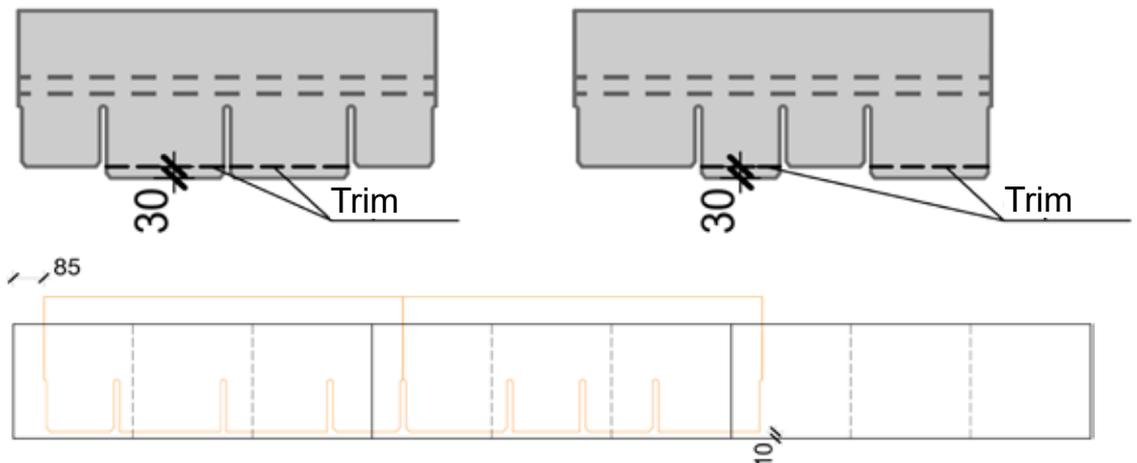

Fig. 22. Trimming the tabs of the first row of shingles from the "Sapporo" collection.
8.2.10 When installing the Döcke PIE PREMIUM shingles from the "Sapporo" collection, the first row of shingles must be trimmed as shown in Figure 22.